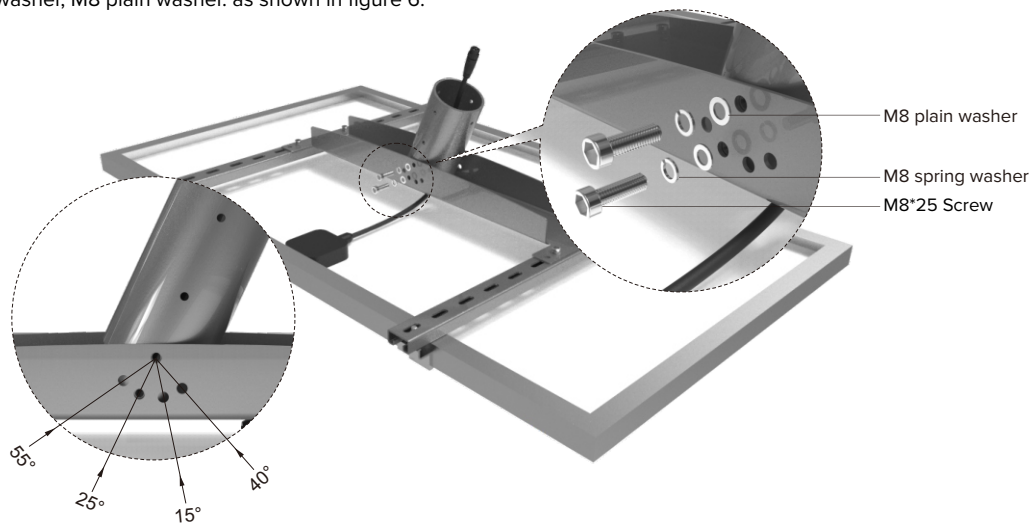

Figure 6
- 4 Choose a proper angle to fasten the bushings, the accessories are M8\*25 screw, M8 spring washer, M8 plain washer. as shown in figure 6.